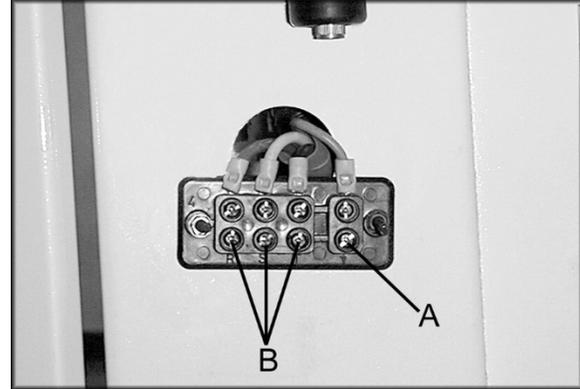

Figure 1
2. Remove the wiring cover and attach the ground wire (A), Figure 1.